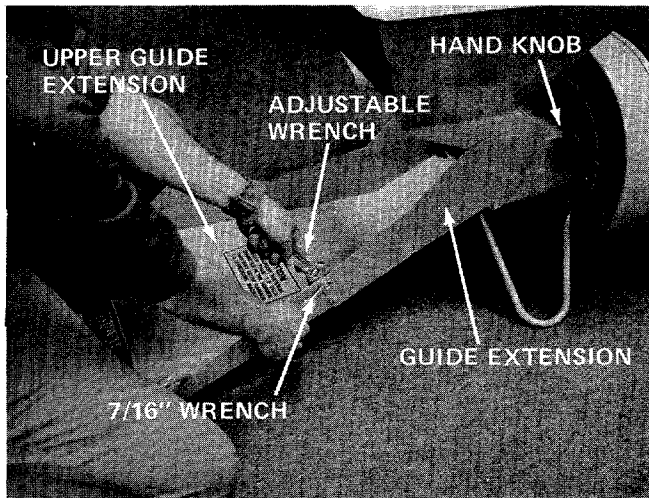

FIGURE 5
← 5. Loosen the hand knob on the right hand side of the shredder. See figure 5.
6. Place upper guide extension in place on guide extension. Secure with four hex screws (B) and hex center lock nuts (C). A 7/16" wrench and adjustable wrench are required. See figure 5.